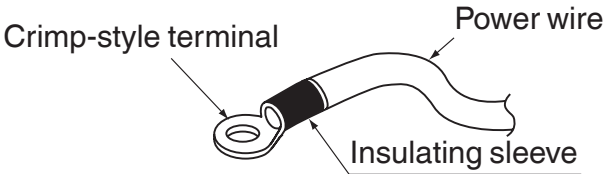

FIGURE N.5
- Only crimp-style terminal with insulating sleeves should be used. Refer to Figure N.5)
3. Be sure to use a crimp-style terminal with insulating sleeves for connections. (Refer to Figure N.5)